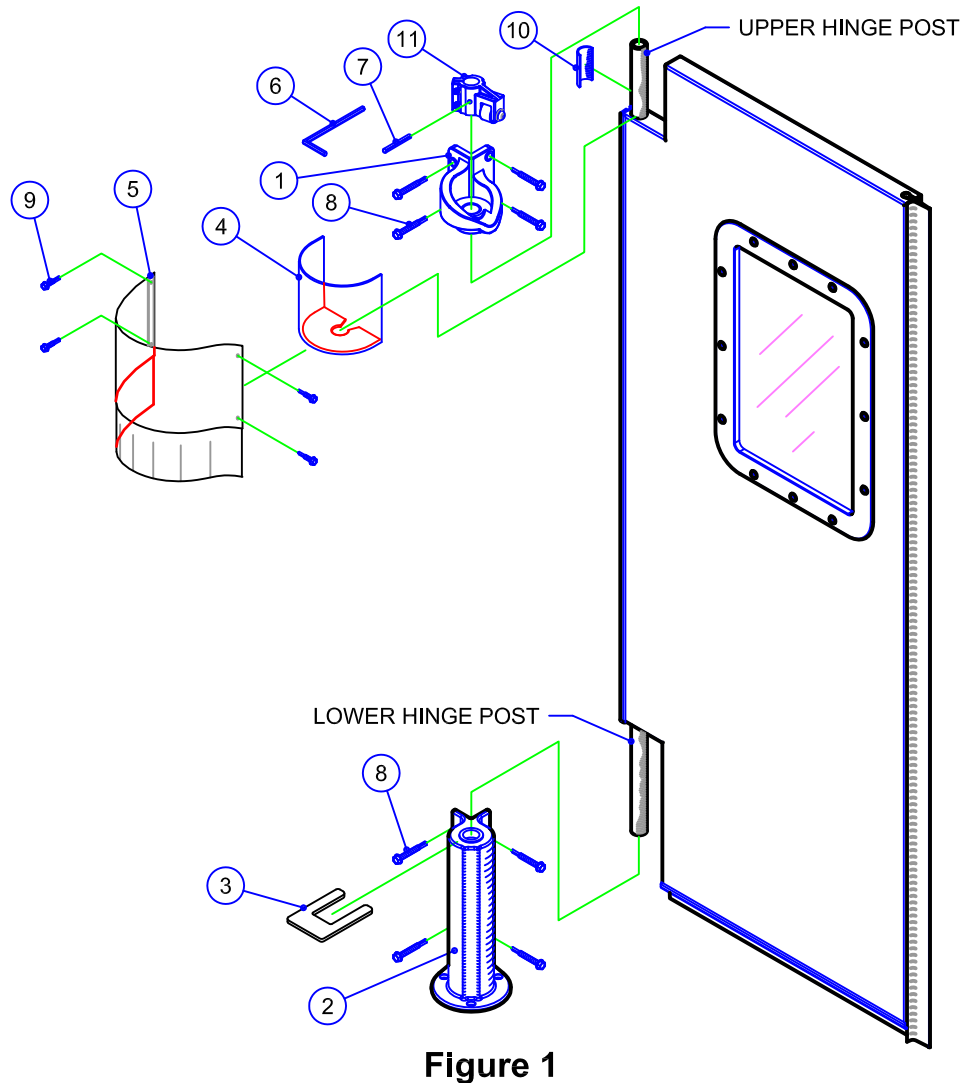
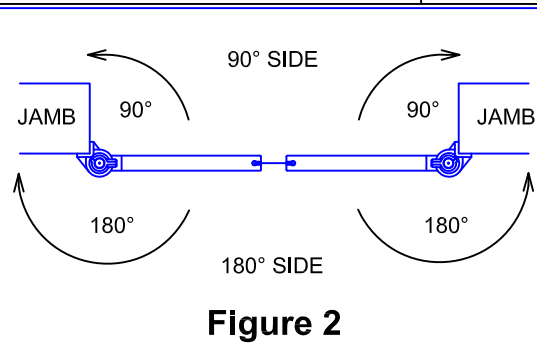
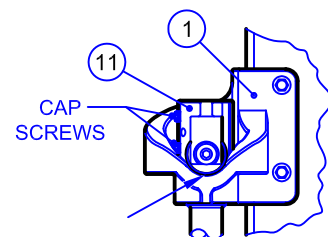

Figure 1
Figure 2
Figure 7
LOCATE YOUR HARDWARE PACKAGE AND CAREFULLY REMOVE HARDWARE FROM THE PLASTIC SEAL. THERE MUST BE ONE HARDWARE PACKAGE FOR EACH PANEL WITHIN AN OPENING. EACH HARDWARE PACKAGE WILL CONTAIN THE FOLLOWING (SEE FIGURE 1):
FACE THE OPENING FROM THE 180° SWING SIDE, SEE FIGURE 2. ALL REFERENCES TO THE LEFT AND RIGHT SIDES IN THESE INSTRUCTIONS SHOULD BE TAKEN AS VIEWING YOUR OPENING FROM THIS PERSPECTIVE.
IMPORTANT: BE SURE THAT THE V-CAMS ① ARE INSTALLED AS SHOWN IN FIGURES 2 & 3. INSTALLING THE V-CAMS INCORRECTLY CAN CAUSE SERIOUS DAMAGE TO THE PANELS AND POSSIBLE INJURY TO PERSONEL
PLACE THE ROLLER ASSEMBLY ⑪ OVER THE UPPER HINGE POST ABOVE THE V-CAM ① SEE FIGURE 1 - PAGE 1. ALLOW THE ROUND BEARING TO SIT IN THE LOWEST POINT IN THE V-CAM ① PATH, SEE FIGURE 7.
LINE THE DOOR UP IN THE CLOSED POSITION (FIGURE 2 - PAGE 1) AND USING THE SUPPLIED 3/16" ALLEN WRENCH ⑥ SECURELY TIGHTEN THE TOP CAP SCREW ON THE ROLLER ASSEMBLY ⑪, SEE FIGURE 7.
RAISE THE DOOR PANEL ENOUGH TO GAIN ACCESS TO THE LOWER CAP SCREW (SEE FIGURE 7) AND TIGHTEN SECURELY.
NOTE: DOOR SWING IS EXTREMELY DIFFICULT TO ADJUST AFTER INSERTING THE ROLL PIN ⑦ INTO THE ROLLER ASSEMBLY ⑪! BEFORE INSTALLING THE ROLL PIN ⑦, YOU MUST MAKE ABSOLUTELY SURE THAT THE DOOR CLOSES IN THE PROPER POSITION, PARALLEL TO THE FRAMED OPENING, SEE FIGURE 2 - PAGE 1. ALLOW DOUBLE DOORS TO CLOSE COMPLETELY AND MAKE SURE THAT THE DOORS SEAL AT THE LEADING EDGE GASKET.